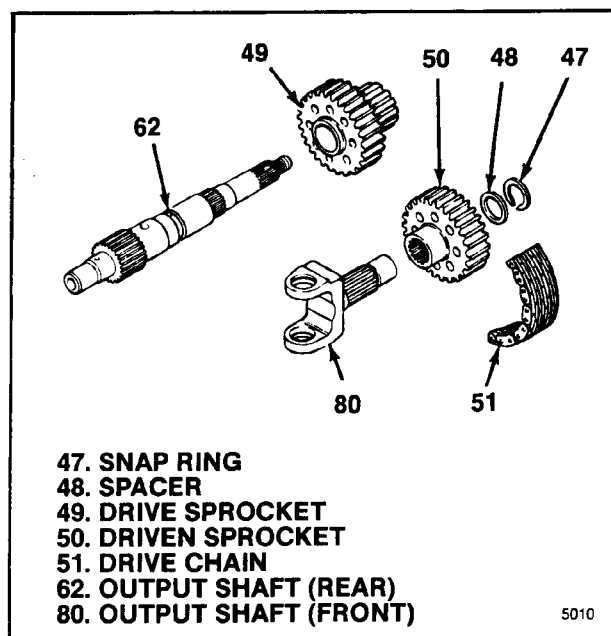

Figure 3-7. Chain Drive
1. If fork assembly (42) has metal crescent ring (43), remove this freeing shift fork pin (44) and cam roller (45).
2. If fork assembly (42) has plastic retainer (43A), cut retainer to remove, freeing pin (44A) and cam roller (45A).
**3-12. REMOVAL OF CHAIN DRIVE.** From remaining transfer case assembly (47 through 121), remove the following (see figure 3-7):
a. Remove snap ring (47) and spacer (48) from output shaft (80).
b. Together, slide drive sprocket (49), driven sprocket (50) and drive chain (51) from output shafts (62 and 80). Separate sprockets and chain when out of assembly.